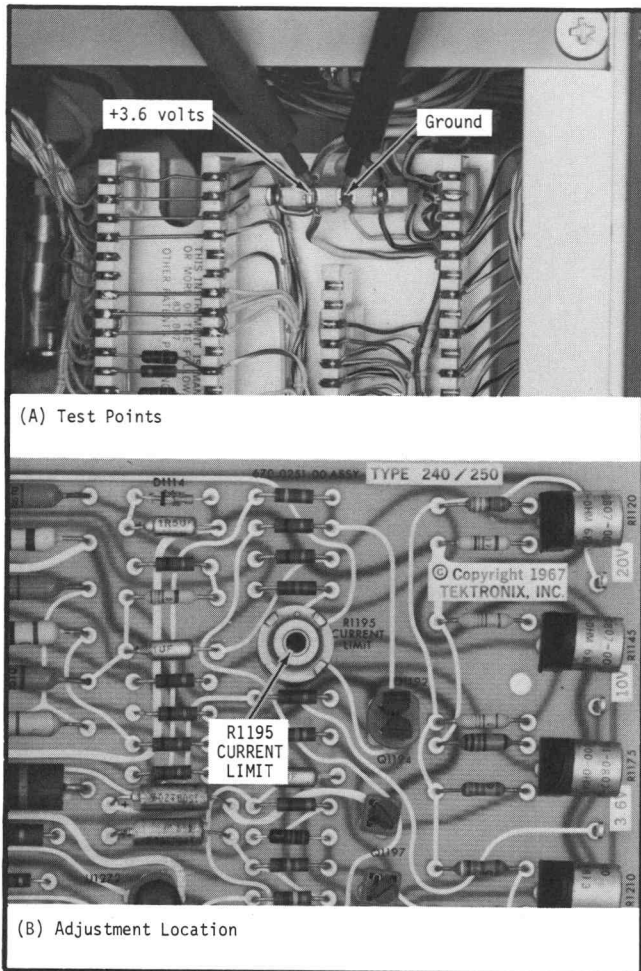

Fig. 4-3. Current Limit Adjustment.
- g. Place the meter test probes between +3.6 volts and ground as illustrated in Fig. 4-3(A). Do not make this check at any other points in the instrument.